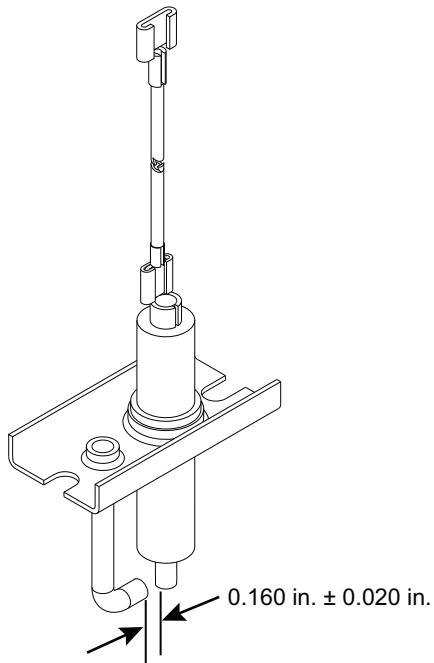

Fig. 53 — Spark Adjustment (Size 04-06)
4. Remove igniter modules from the top of the burner box assembly. Inspect and adjust the spark gap, if necessary (see Fig. 53).